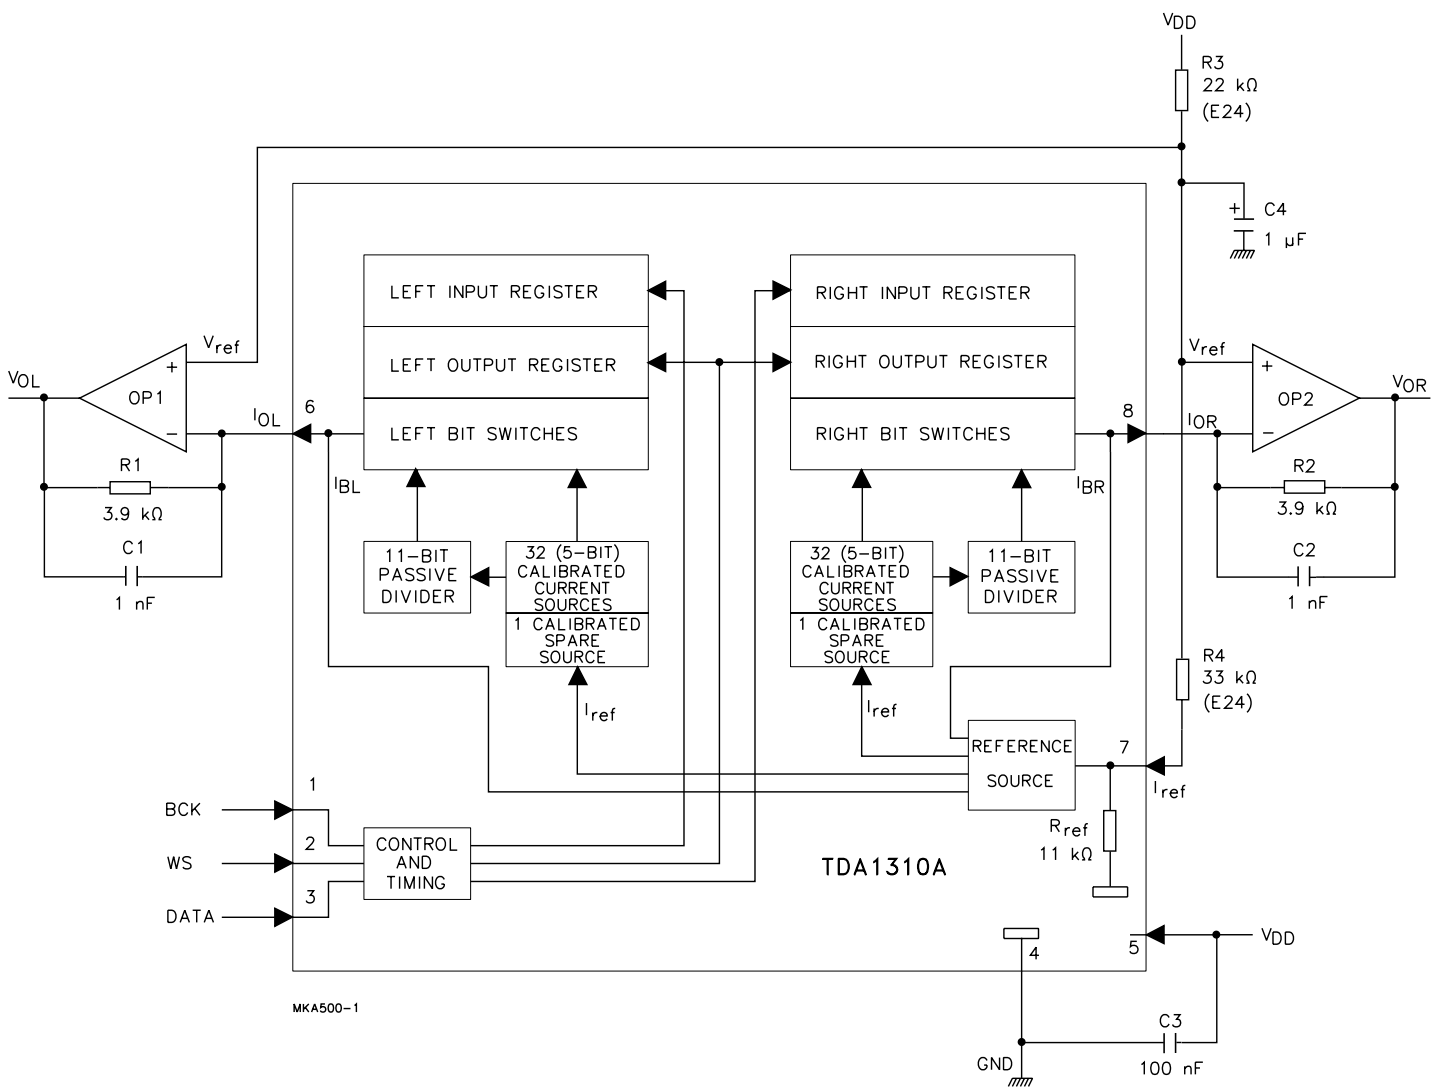

Fig.1 Block diagram.
The 32 current sources and the spare current source of the TDA1310A are continuously calibrated (see Fig.1). The spare current source is included to allow continuous converter operation. The output of one calibrated source is connected to an 11-bit binary current divider consisting of 2048 transistors. A symmetrical offset decoding principle is incorporated and arranges the bit switching in such a way that the zero-crossing is performed only by switching the LSB currents.
With a HIGH level on the word select input (WS), data is placed in the left input register, with a LOW level on the WS input, data is placed in the right input register (see Fig.1). The data in the input registers are simultaneously latched in the output registers which control the bit switches.
An internal bias current Ibias is added to the full scale output current IFS in order to achieve the maximum dynamic range at the outputs OP1 and OP2 in Fig.1.
The reference voltage Vref in Fig.1 is 2/3 VDD. In this way maximum dynamic range is achieved over the entire power supply voltage range.
The tolerance of the reference input current in Fig.1 depends on the tolerance of the resistors R3, R4 and Rref(3).
$V_{DD} = 5\text{ V}$ ;  $T_{amb} = 25\text{ }^{\circ}\text{C}$ ; measured in Fig.1; unless otherwise specified.